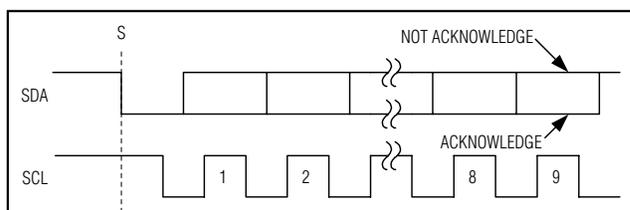

Figure 6. Acknowledge Bits
Data transfers are acknowledged with an acknowledge bit (A) or a not-acknowledge bit ( $\overline{A}$ ). Both the master and the MAX1236–MAX1239 (slave) generate acknowledge bits. To generate an acknowledge, the receiving device must pull SDA low before the rising edge of the acknowledge-related clock pulse (ninth pulse) and keep it low during the high period of the clock pulse (Figure 6). To generate a not-acknowledge, the receiver allows SDA to be pulled high before the rising edge of the acknowledge-related clock pulse and leaves SDA high during the high period of the clock pulse. Monitoring the acknowledge bits allows for detection of unsuccessful data transfers. An unsuccessful data transfer happens if a receiving device is busy or if a system fault has occurred. In the event of an unsuccessful data transfer, the bus master should reattempt communication at a later time.